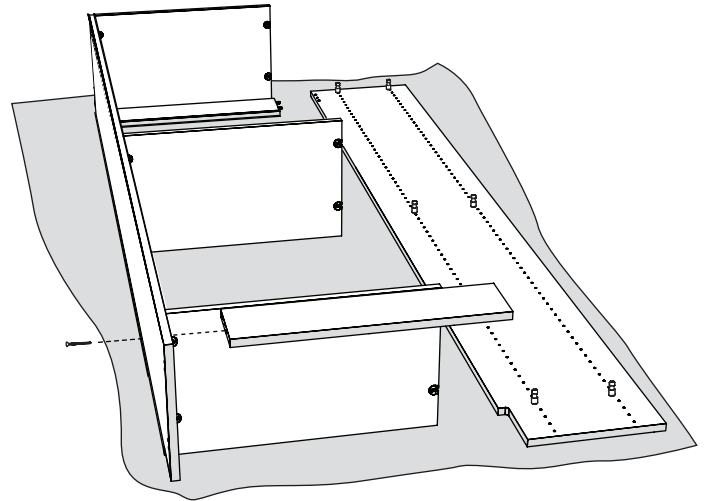

Fig. 4
- To use the cleat as a toekick, remove the four dowels from the cleat. Fasten the cleat in the toekick position using one HiLow screw through each side panel. (See Fig. 4.) (See "Toe Kick Installation" instructions for further details on contiguous panel toekick installation.)